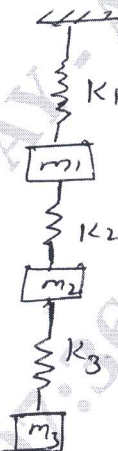

Fig.Q10
- 10 Using Stodola's method find the fundamental mode of vibration and its natural frequency of the spring mass system. For $K_1 = K_2 = K_3 = 1 \text{ N/m}$ and $m_1 = m_2 = m_3 = 1 \text{ kg}$. (Refer Fig.Q10)